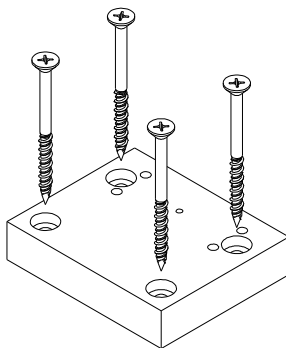

Figure 12:
- c. Fasten to the floor (Figure 12), the bottom section of the Archetype Floor Pivot with the factory provided concrete anchor screws ($1/4"$ FHP Concrete screw, $3-1/4"$).